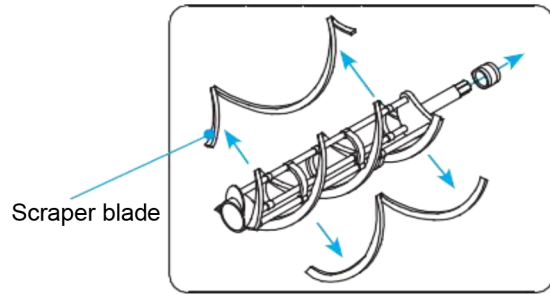
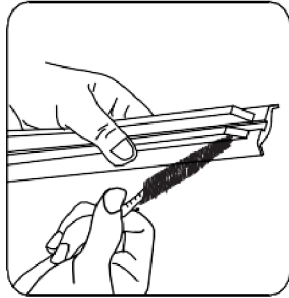

Figure 5-36
Figure 5-37
3. Disassemble the beater assembly: Remove scraper blades (Figure 5-36.) and wash all the parts using an approved cleaning detergent and brushes in the kit provided (Figure 5-37.). Wipe all parts with a soft cloth and lay them out to dry overnight.